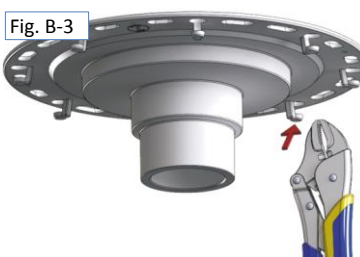

Fig. B-3
- Remove the ANCHORS & LEGS on the TISTO DRAIN with pliers (Fig. B-3)